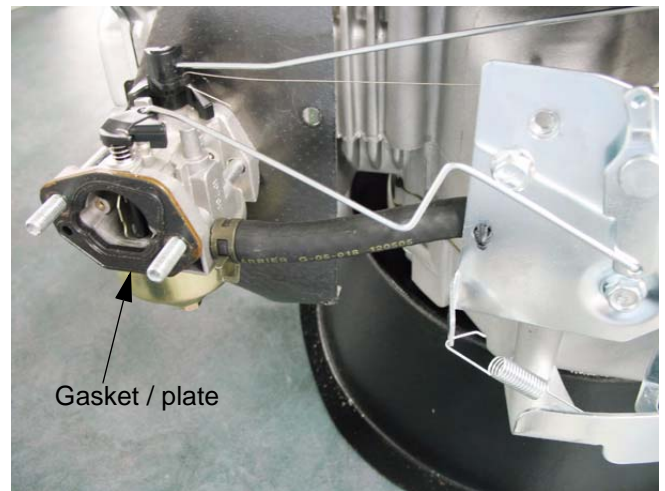

Figure 3.10
**NOTE:** Behind the filter housing is a steel plate with formed rubber gaskets vulcanized to each surface. See Figure 3.10.